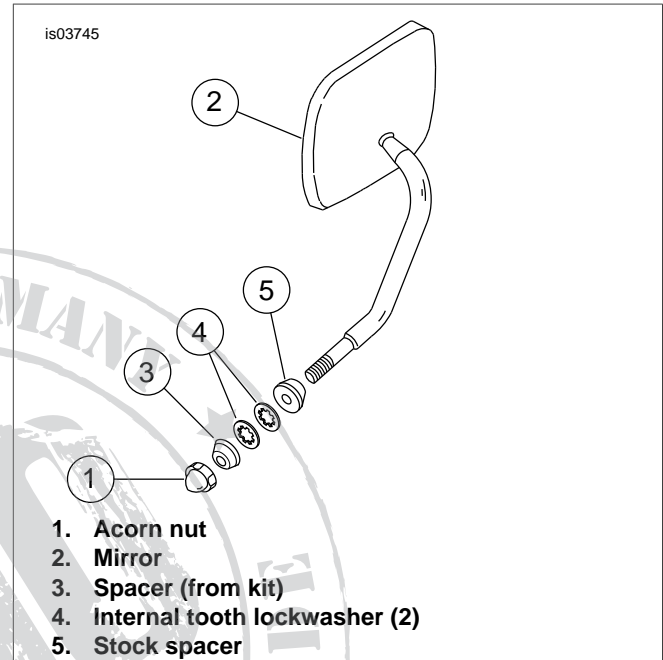
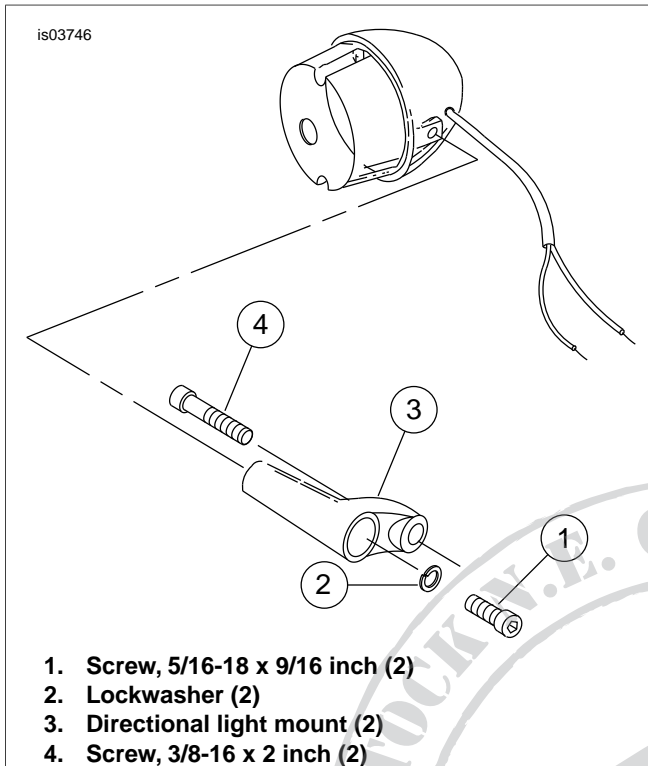

Figure 1. Attaching Mirror
Figure 2. Attaching Directional Light Mount
3. **If directional light is mounted on upper fork bracket**, remove fork tube pinch screw from right side of upper fork bracket. (This is the screw that secures the right directional light.) See Figure 1. **If directional light is mounted on mirror**, remove directional light and mounting hardware. Retain the internal toothed lockwashers (4) and spacer (5).
4. Install acorn nut from kit to retain right mirror. If acorn nut "bottoms" without tightening add the second spacer (3) from kit in the location shown.
If directional light is mounted on upper fork bracket, perform Step 6. **If directional light is mounted on mirror**, refer to Figure 2 and install the directional light mount and then perform Step 6, but, use 3/8-16 x 2.0 inch screw from kit to attach directional light. Disregard reference to upper bracket pinch screw.
7. Repeat Steps 1 through 6 to relocate left directional light. See Figure 1. Use stock acorn nut and internal toothed lockwasher to mount mirror.
If directional light is mounted on upper fork bracket, perform Step 7. If directional light is mounted on mirror, refer to Figure 2 and install the directional light mount and then perform Step 7, but, use 3/8-16 x 2 inch screw from kit to attach directional light. Disregard reference to upper bracket pinch screw. See Figure 1. Install acorn nut from kit to retain right mirror. If acorn nut "bottoms" without tightening add the second spacer from kit in the location shown.